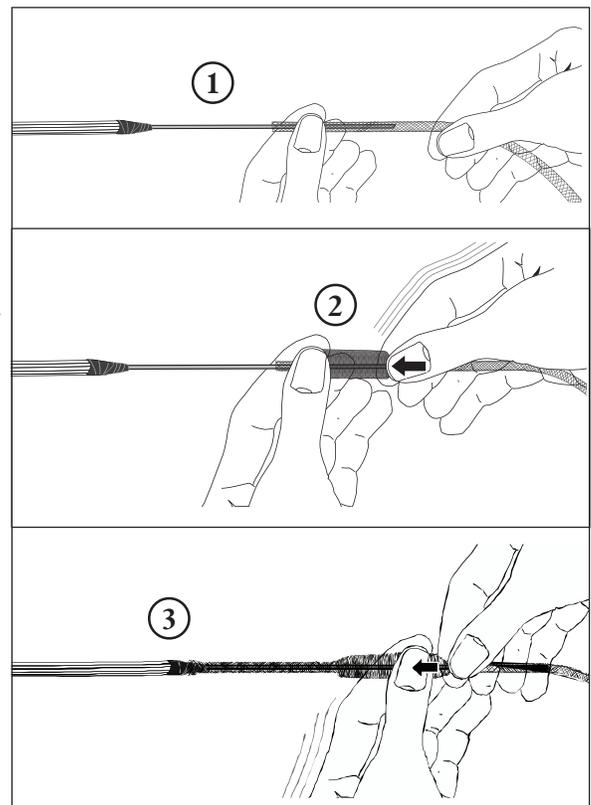

Figure 17
Step 3: Hold the tube as shown in Figure 17 with the plastic rod inserted in the end of the tubing.
- Repeat this procedure until the rod appears through the end of the braided tubing (Figure 17).